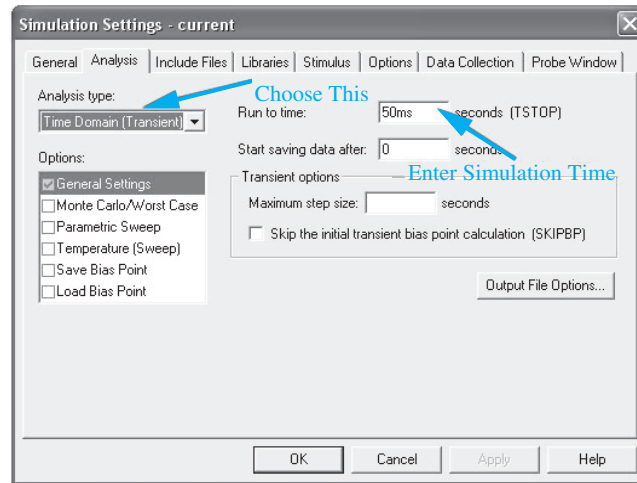

FIGURE 2.75 Set up a time domain (transient) simulation.
3. Another window, “Simulation Setting” will pop up in Figure 2.75. Go to the “Analysis” Tab, and choose the “Analysis Type” to be “Time Domain (Transient).”